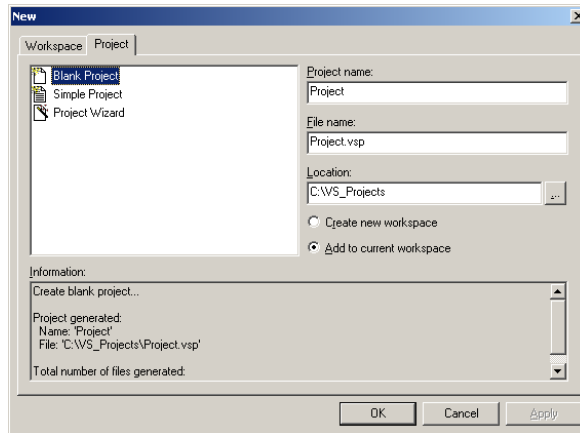

Figure 17: New dialog box, Project tab (Navigator)
- 3 In the New dialog box displayed, click the Project tab. See *Figure 17*, page 26.
- 1 When you have selected **Blank Project** under the Project tab of the New dialog box (see *Figure 17*, page 26), specify Project name, Project file name (extension `vsp`), and location of Project file.
- 1 When you have selected **Simple Project** under the Project tab of the New dialog box (see *Figure 17*, page 26), specify Project name, Project file name (extension `vsp`), and location of Project file.
- 1 When you have selected **Project Wizard** under the Project tab of the New dialog box (see *Figure 17*, page 26), specify Project name, Project file name (extension `vsp`), and location of Project file.